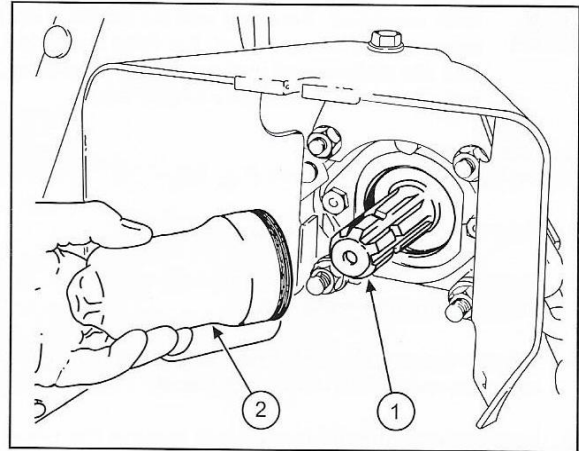

Fig. 41
The PTO shaft (1, Fig. 41) at the rear of the tractor has six splines and diameter of 35 mm (1 3/8 in) with an annular groove for positive fixing of implement couplings. A removable cap (2) protects the splines and the operator when the shaft is not in use.